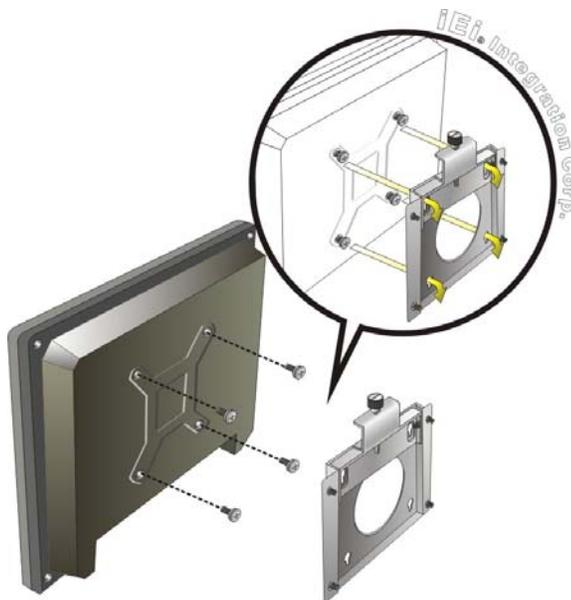

Figure 4-17: Chassis Support Screws
Step 6: Insert the four monitor mounting screws provided in the wall mount kit into the four screw holes on the rear panel of the flat bezel panel PC and tighten until the screw shank is secured against the rear panel (**Figure 4-17**).
- Step 8:** Carefully insert the screws through the holes and gently pull the monitor downwards until the monitor rests securely in the slotted holes (**Figure 4-17**). Ensure that all four of the mounting screws fit snugly into their respective slotted holes.
- CN Location:** See **Figure 4-17**